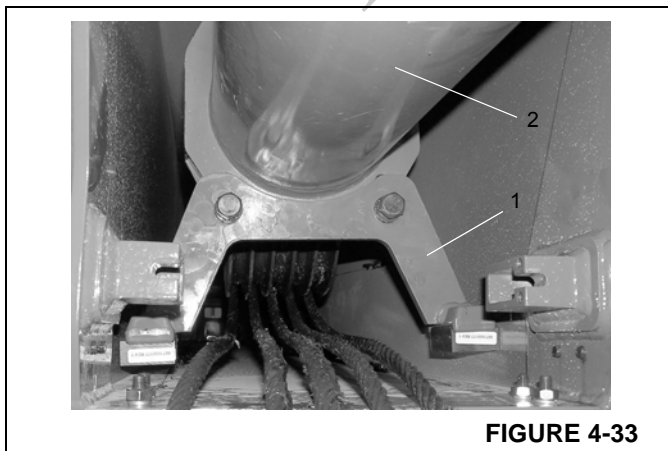

FIGURE 4-33
4. After supporting the weight of the tele cylinder, remove the two bolts securing the cylinder foot weldment (Figure 4-33, 1) to the telescope cylinder (Figure 4-33, 2). Remove the foot weldment.